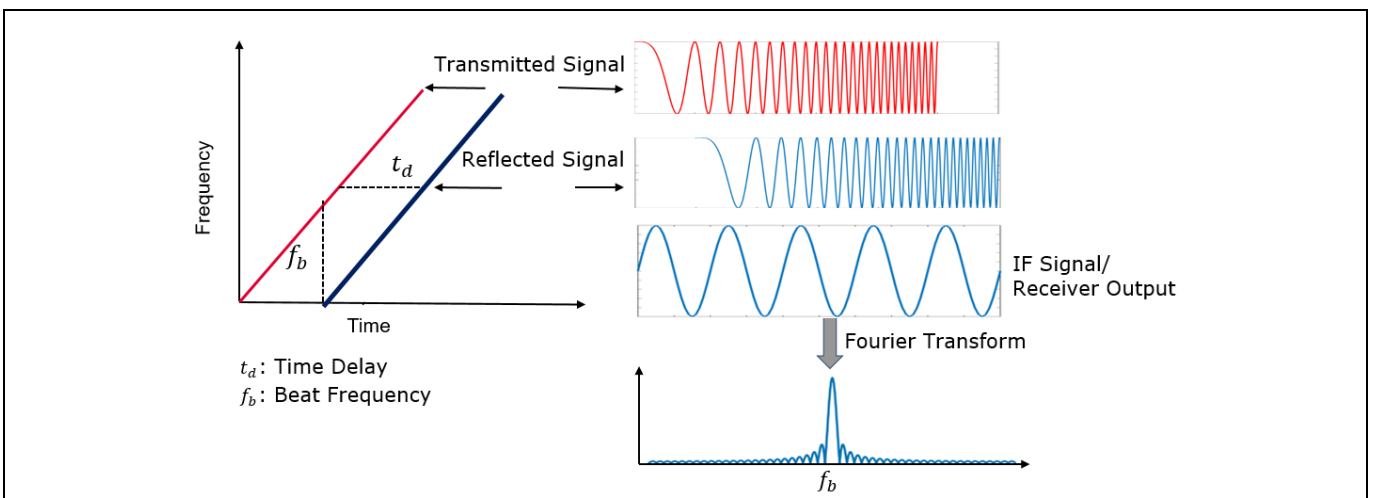

**Figure 2 FMCW radar system block diagram**
Figure 2 shows the flow of a typical Frequency Modulated Continuous Wave (FMCW) radar system. A frequency modulated transmitted signal is sent through the transmit antenna. The reflected signal from the target is obtained at the receive antenna. This signal is mixed with the transmitted signal at the mixer to obtain the Intermediate Frequency (IF) output. The IF signal is then digitized at the ADC to obtain the data samples of the received output.